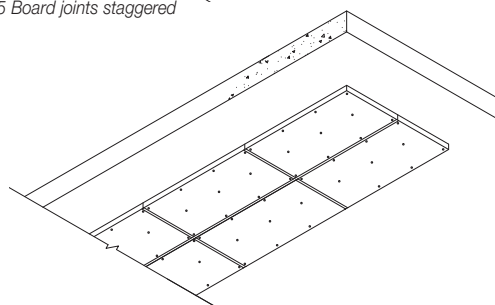

Figure 6 Board joints squared
2. Board joints can be either staggered (see Figure 5) or squared (see Figure 6) and taped with 96 mm wide silver *Kingspan* Insulation Tape. Fasteners along each length - no less than 50 mm - no more than 150 mm from edge of board, 3 No. fasteners along the middle (offset from edge positions as per diagram Figure 3).